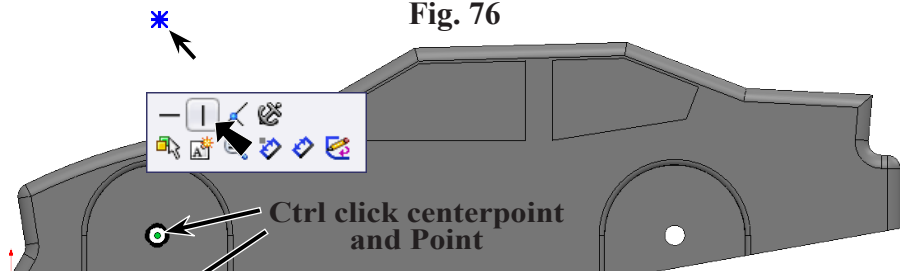

Fig. 77
Step 8. **Ctrl click center-point of offset and Point** to select both, **Fig. 77**. Release Ctrl key and click **Make Vertical**  on the Content menu.